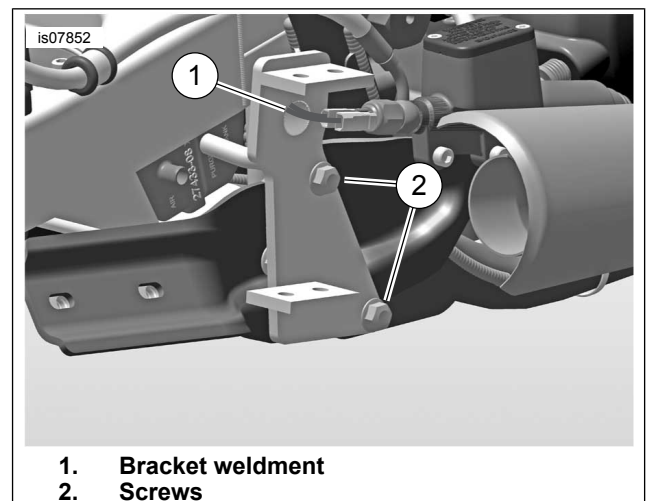
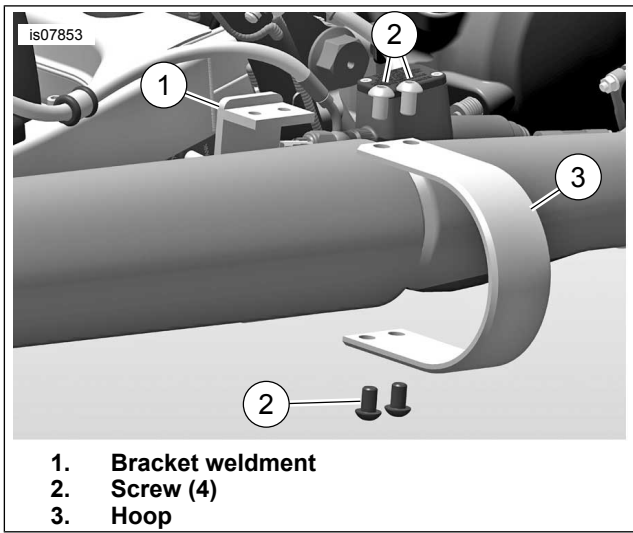

Figure 3. Install Bracket
Figure 4. Install Guard
2. See Figure 4. Remove four screws (2) and hoop (3).
3. See Figure 3. Install bracket (1) using screws (2) removed earlier. Tighten to 25–30 N·m (18.4–22.1 ft-lbs).
4. Route the brake switch connectors through hole in bracket (1). Connect to brake switch.
6. See Figure 4. Apply LOCTITE 243 MEDIUM STRENGTH THREADLOCKER AND SEALANT (blue) to screws (2).
7. Install hoop (3) with four screws (2). Tighten to 29.8 N·m (22 ft-lbs)